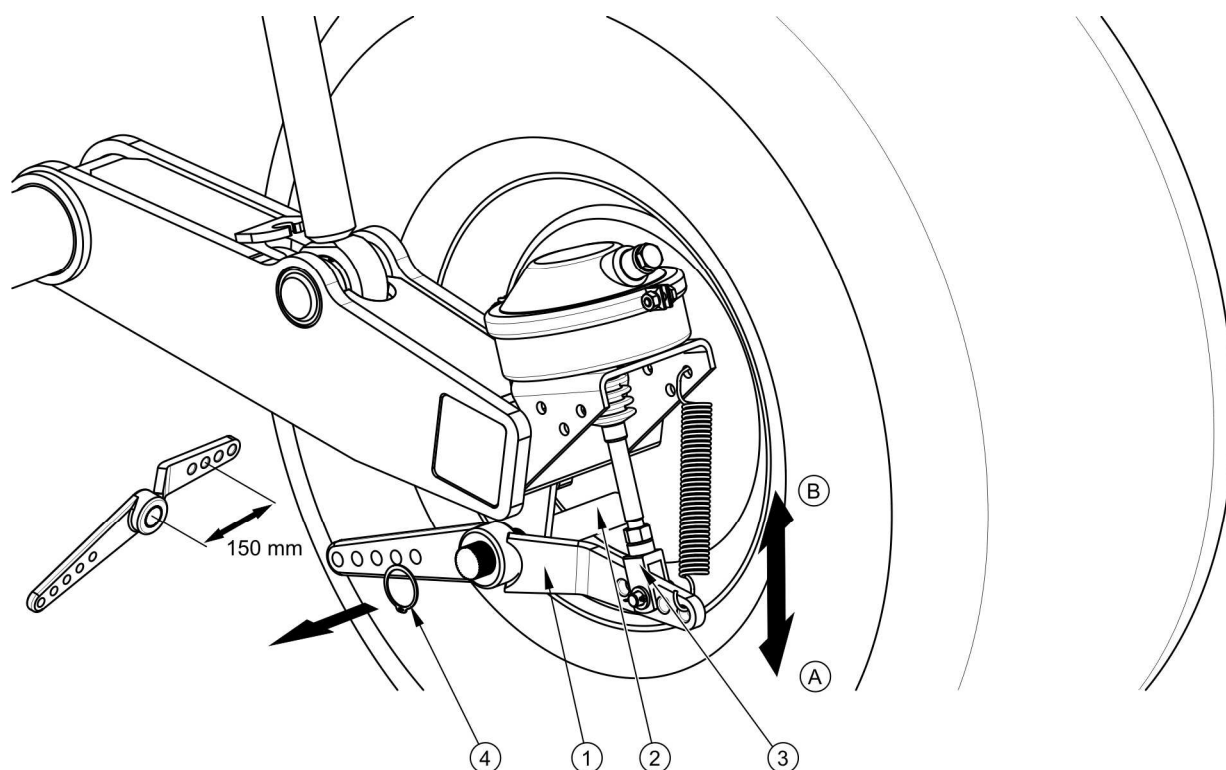

FIGURE 5.4 Adjustment of axle mechanical brakes
Trailer wheels must brake simultaneously. Brakes adjustment involves changing the setting of the expander arm (1) (*FIGURE 5.4*), in relation to expander shaft (2).